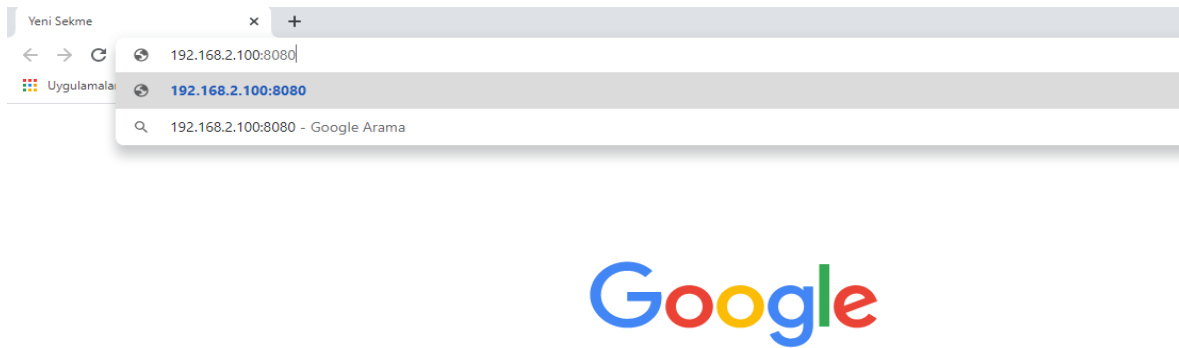

Figure 1.1
- You need to make sure that your PC and your intercom is connected to the same network as INSPINIA. After the Inspina Touch panel is opened, 8080 is added to the end of the product IP address(Default IP =192.168.2.100) to access the product Web interface via the web browser. (Figure 1.1)